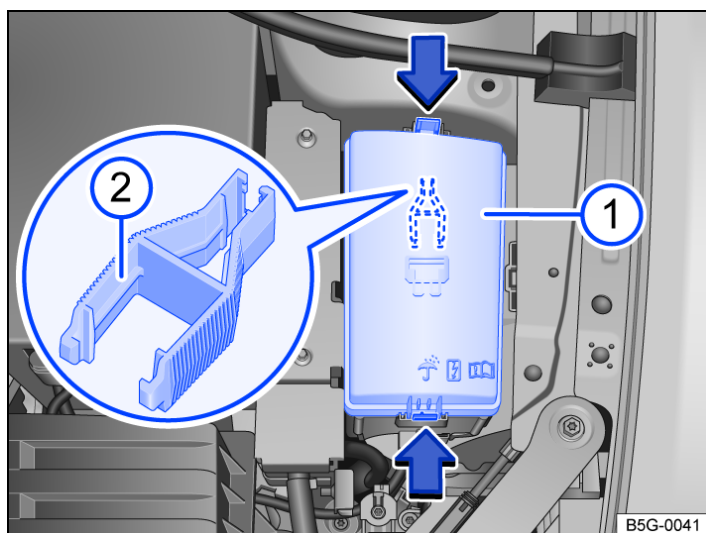

Fig. 1 In the engine compartment: Fuse box.
- ① Fuse box cover.
- ② Plastic pliers for pulling out fuses.
The plastic pliers → *fig. 1* ② for removing fuses can be found on the inside of the fuse box cover or on the fuse panel.